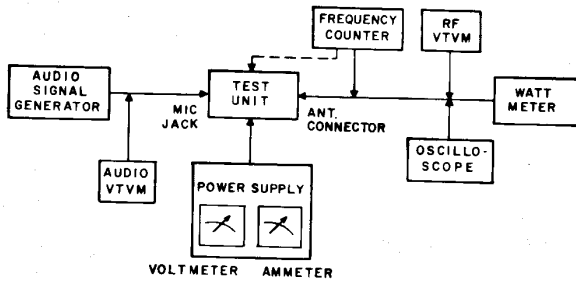

Figure 2 – Test Equipment Hook-Up
in the block diagram below, Figure 2. To activate the transmitter without using the microphone, use
- Adjust L106 for maximum reading on the RF wattmeter. See Figure 2.
*(Note: – May be read on bench supply ammeter if used, see Figure 2)*
- c. Adjust RV-102 to obtain 90% modulation, as observed on the scope, see Figure 2.